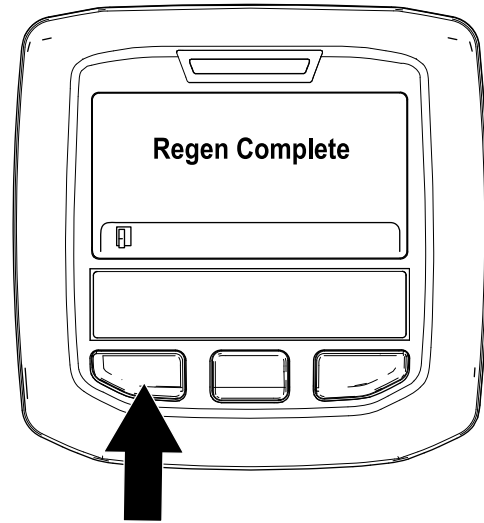

Figure 47
9. The parked regeneration is complete when the “Regen Complete” message displays in the InfoCenter. Press the left button to exit to the home screen (Figure 47).